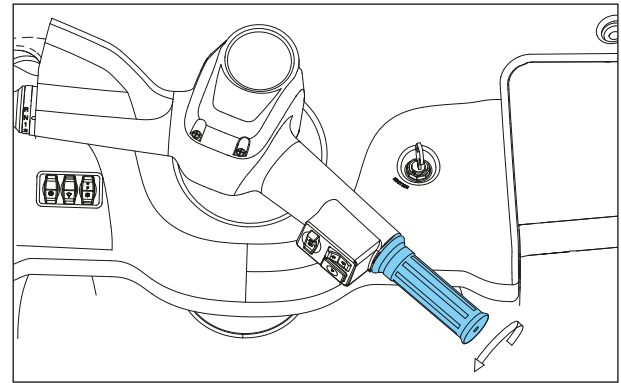

Fig. 2.85
- For checking the throttle cable free play, rotate the throttle slowly till the carburetor piston valve gets actuated. If the free play is more or less adjust as follows. (Fig. 2.85)